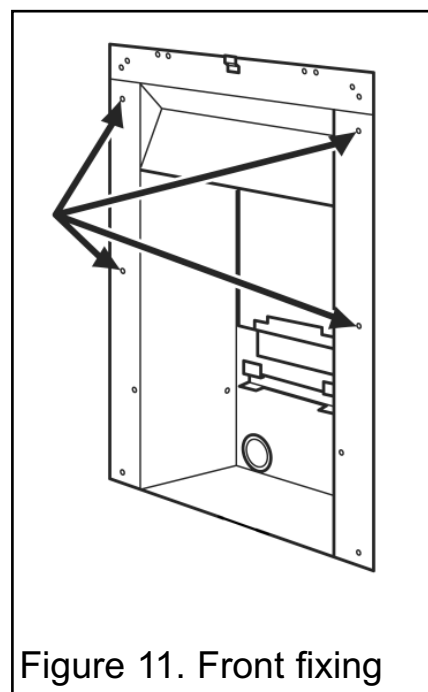

Figure 11. Front fixing
3. Mark the fireplace front surround through the four fixing holes in the side flanges of the convector box (See figure 11).